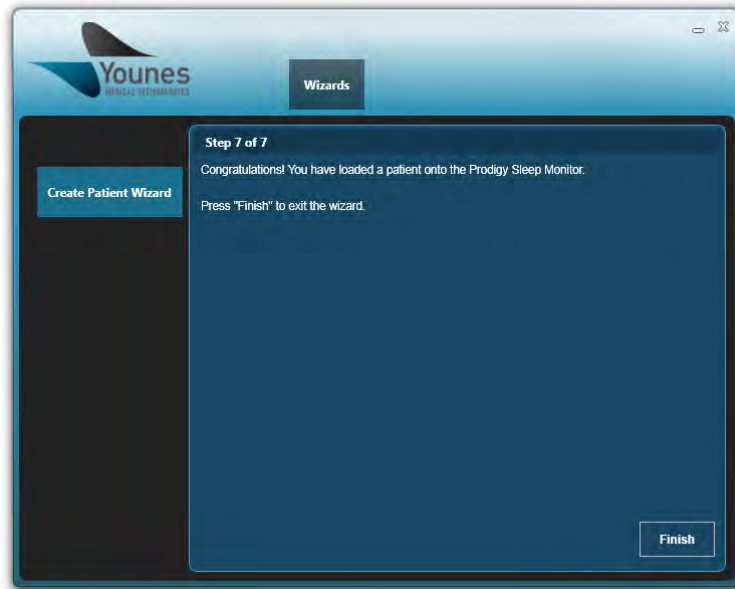

Figure 128 – Windows PC Prodigy Application Screen Indicating Patient Successfully Loaded (Create Patient Wizard)
15. The screen will now indicate that a patient has been uploaded onto the Prodigy Sleep Monitor, as shown in Figure 128. Select “Finish” to exit the wizard.